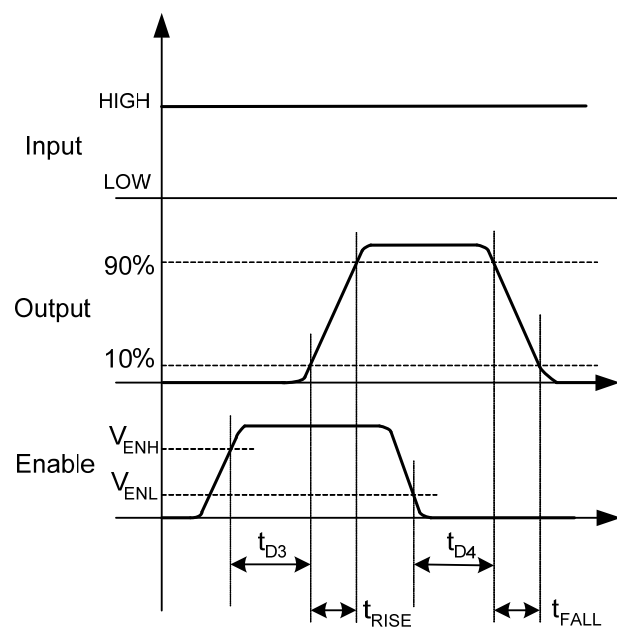
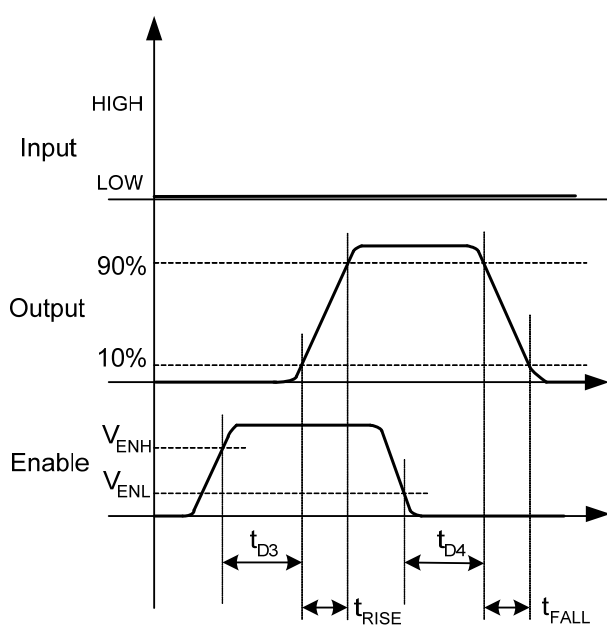

Figure 11. Non-Inverting (IN HIGH)
Figure 12. Inverting (IN LOW)
11. See Timing Diagrams of Figure 11 and Figure 12.